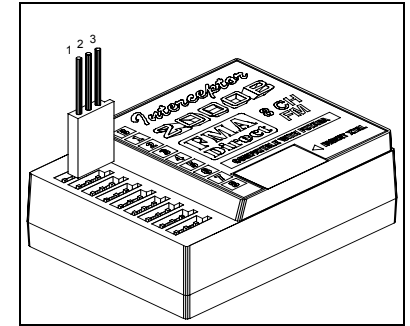

FIGURE 2
- When hooking up servos to your receiver, use the compatible servo types as listed in TABLE 1. Use TABLE 2 and FIGURE 2 to check its plug wire color orientation. In most cases, your receiver connectors are polarized by the case so that the pins mate properly with the servos listed in TABLE 1. If you are using JR servos, care must be taken to insure the signal wire (#3 / yellow in TABLE 2) goes to the label side of the